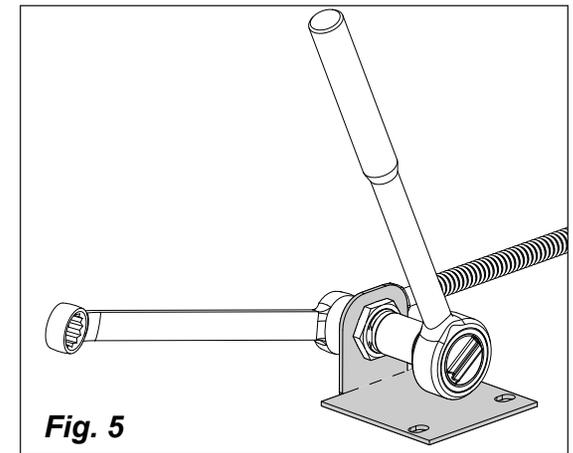

Fig. 5
7. Use a 1/2" wrench or locking pliers to prevent the brass elbow from rotating, and a 1/2" socket wrench to remove the orifice. There is a large locknut just below the orifice which must remain tight against the bracket. (Fig. 5)